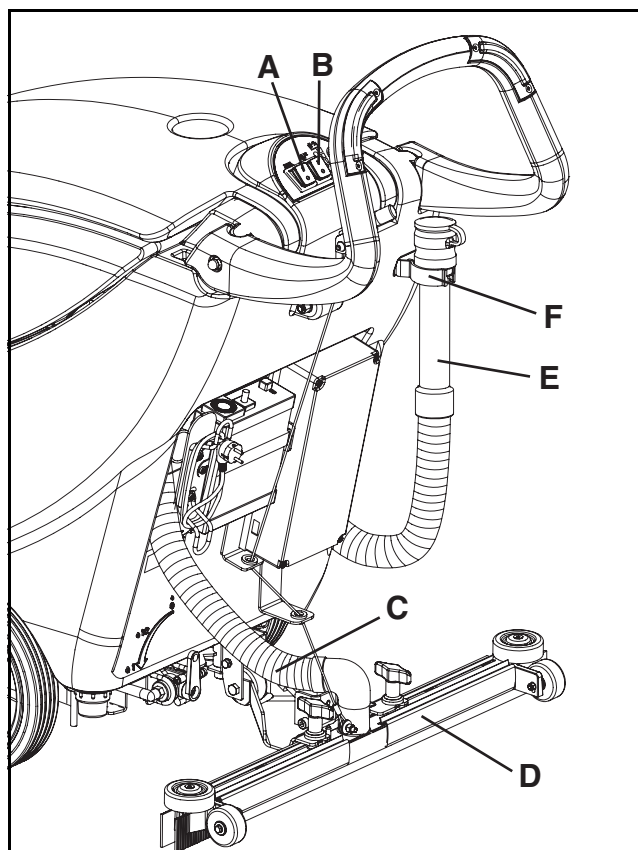

Figure 22
3. Make sure that the switches (A and B, Fig. 22) are in the "0" position.
4. Disconnect the vacuum hose (C, Fig. 22) from the squeegee (D).
5. Disconnect the recovery tank drain hose (E, Fig. 22) from the bracket (F).